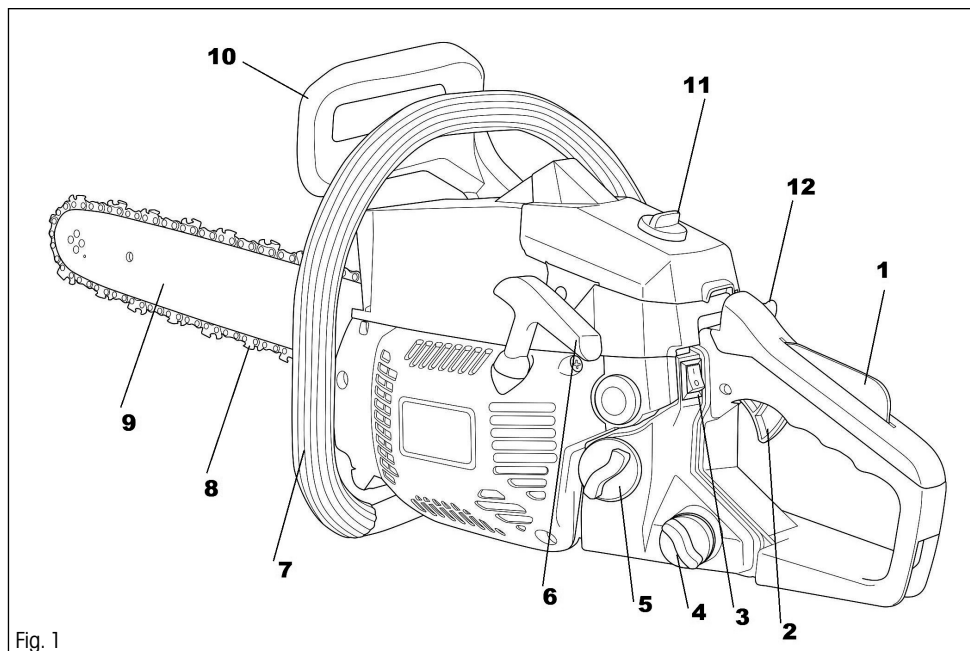

Fig. 1
Description of the power tool (see Fig. 1)
- ✿ The safety brake lever (Fig. 1 point 10) must be disengaged (pull it towards the top handle)
Chain brake (Fig. 1, point 10)
- ☼ Push the brake lever (Fig. 1, point 10) forward. The chain should stop immediately.